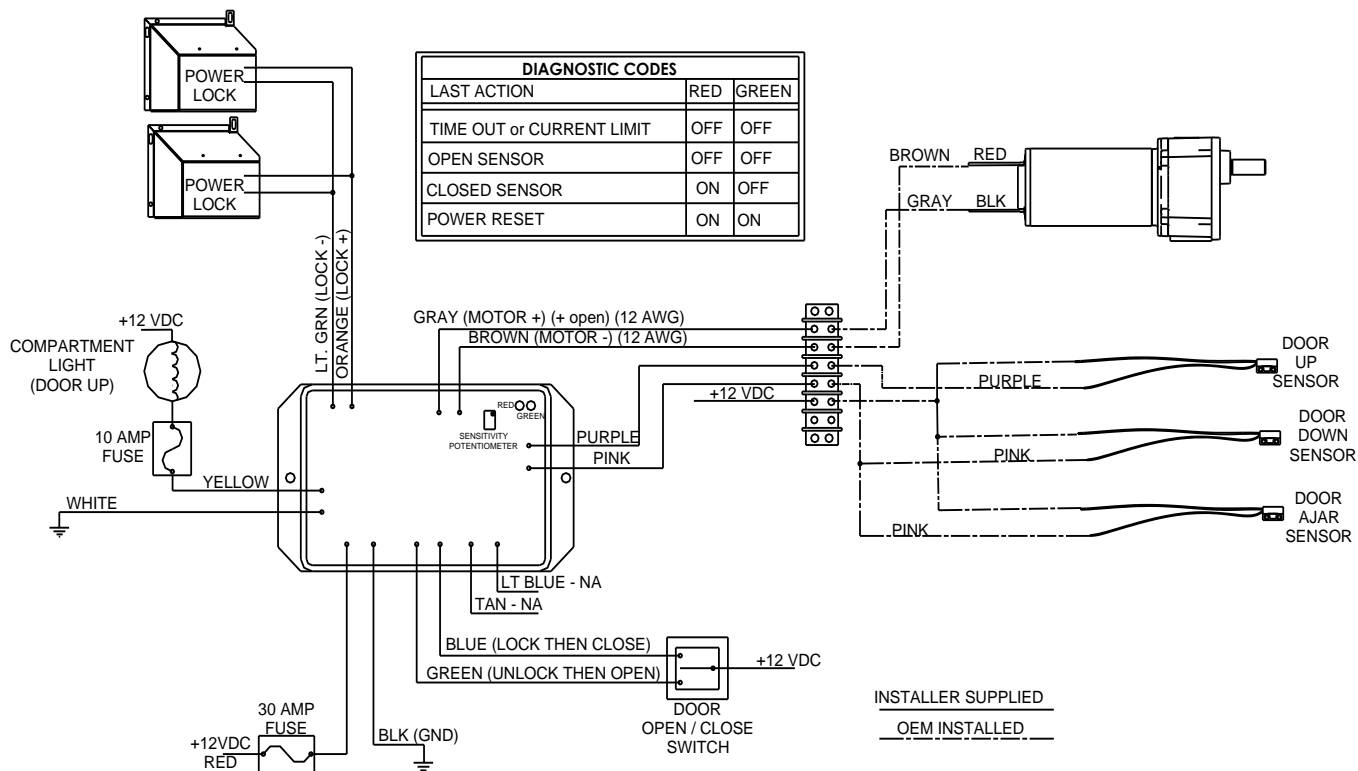

Fig. 7 – Power Cargo Cover Schematic
- Following wiring schematic; connect wiring as shown. See Fig. 7.